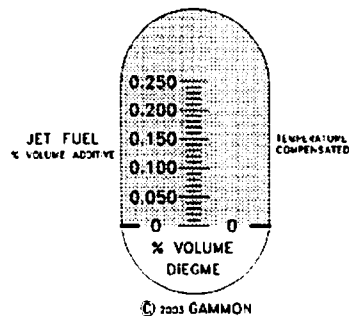

Figure 2
Step 3. Open the cover of the refractometer window, make certain it is clean, and apply several drops of water to it, from the aluminum dish. Use a clean toothpick or a pencil. Close the cover and look through the eye-piece to observe the location of the shadow line on the graduated scale. The eye piece can be rotated for clarity. Remove the hex key from the instrument case and adjust the set screw (in the middle of the nameplate) so that the shadow line intersects the zero line of the scale. See Fig. 2 for a typical condition of a correctly zeroed instrument. Clean the cover and window.